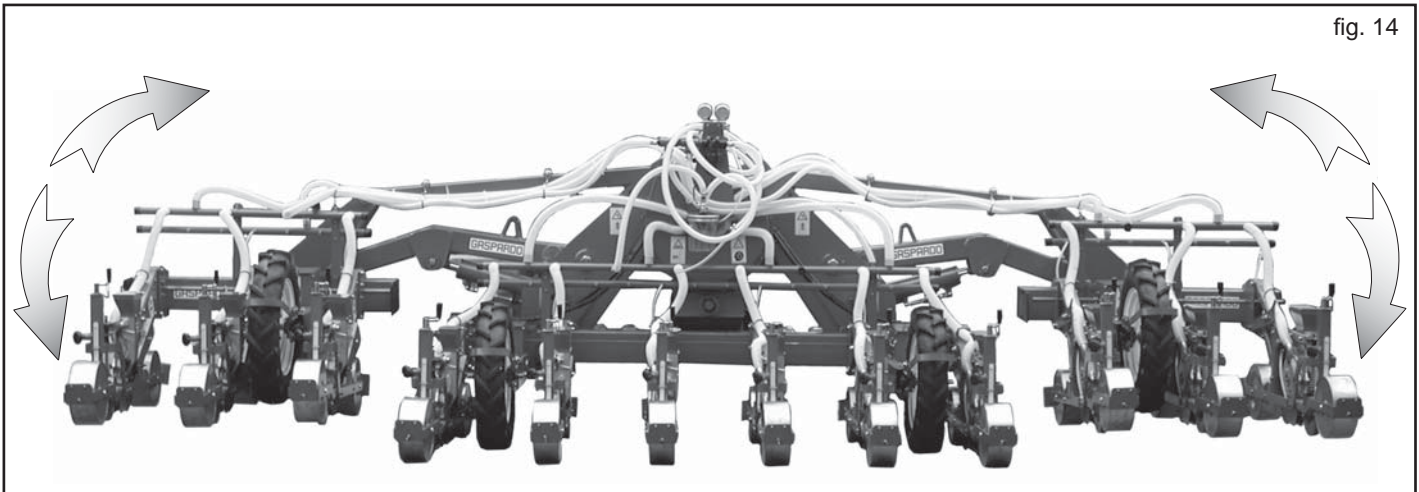

fig. 14
The machine frame is designed so that the side ends that hold the planting elements can be folded using a hydraulic system (Fig. 14), thus reducing the road.
- 6) Actuate the hydraulic system to open the frame (Fig. 14), keeping the planter raised from the ground.